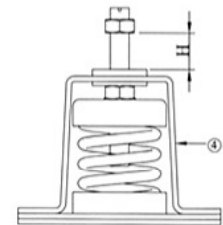

figure 2
- 2、 Turn screw rod of AVM ③ counterclockwisely to make sure that the gap between adjustable nut ④ and AVM is H,H of type JKL at least more than 30-35mm, H of type JKL-2 at least more than 55-60mm.As figure 2.